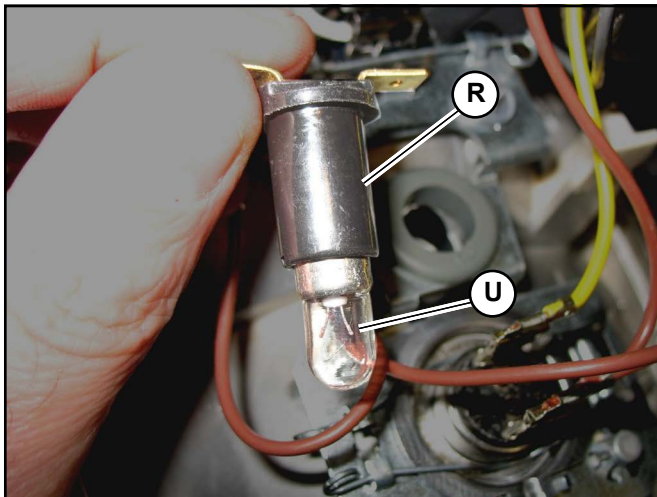

Fig. 246 – Marker Bulb
2. Push and twist bulb (U, Fig. 246) to remove the bulb from socket (R). Discard the spent bulb.